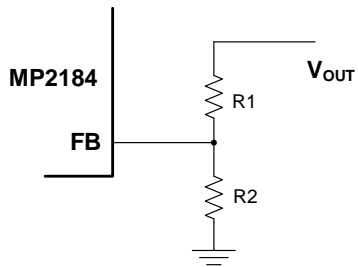

Figure 7: Feedback Network
The external resistor divider sets V_{OUT} (see Figure 7). Select the feedback resistor ($R1$) that reduces the V_{OUT} pin's leakage current (typically between 100 Ω and 200k Ω). There is no strict requirement on the feedback resistor. Select $R1$ to exceed 10k Ω . $R2$ be estimated with Equation (2):
Figure 7 shows the feedback circuit.